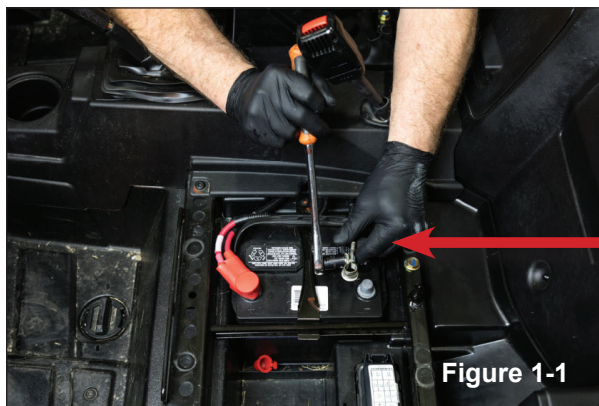

Figure 1-1
- Remove the negative terminal of the battery (Figure 1-1)